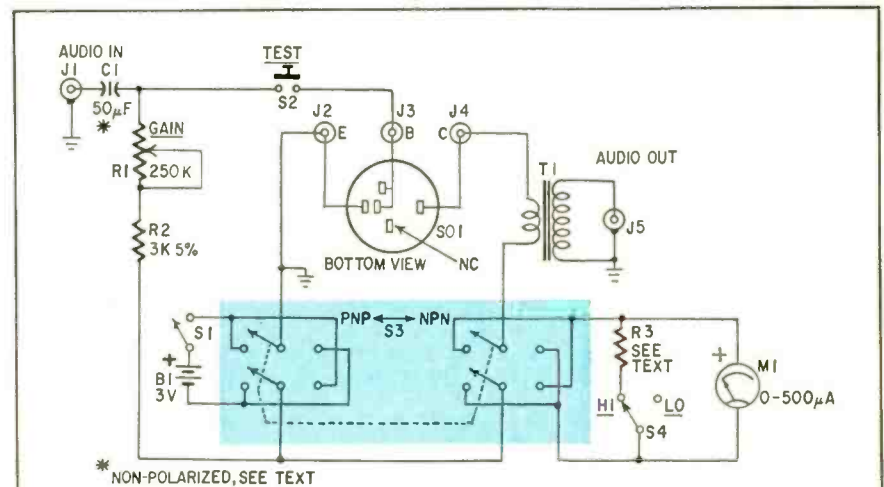

Fig. 1—Switch S3 reverses polarity to test pnp and npn transistors. Control R1 is calibrated to provide direct readout of gain and optimum bias.
**Theory.** Slide switch S3 (Fig. 1), shown in the pnp position, applies battery voltage (B1) to the transistor under test. This switch establishes proper polarity for the meter as well as for the